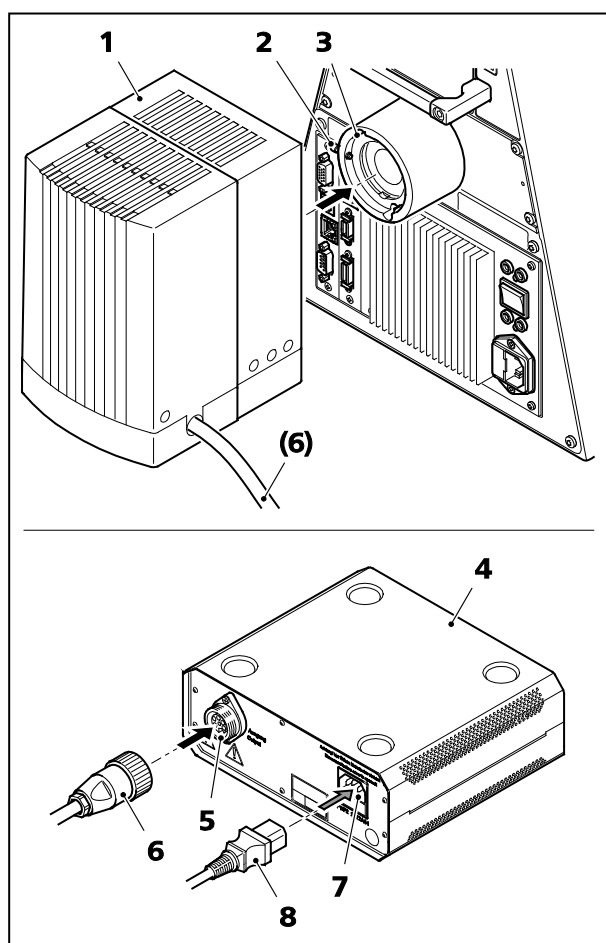

Fig. 54 Power supply unit (ballast unit) for HBO 100
- Remove the cover from the reflected light socket (Fig. 54/3).
- Insert the dovetail of the lamp housing (Fig. 54/1) into the reflected light socket (Fig. 54/3) on the rear of the instrument and tighten the clamping screw (Fig. 54/2) using the 3 mm ball-headed screwdriver.
- Insert the multi-pin plug of the HBO 100 illuminator (Fig. 54/6) into the device socket (Fig. 54/5) on the HBO 100 power supply unit (Fig. 54/4) and secure with the coupling ring.
- Insert the power supply cable (Fig. 54/8) into the power connector (Fig. 54/7) on the HBO 100 power supply unit, then insert the cable plug into a mains socket.